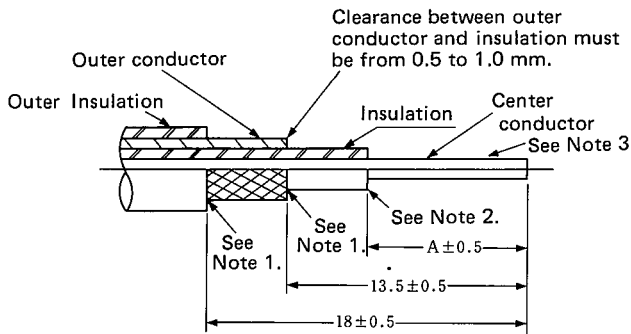

Fig. 2
- (1) Strip the outer insulation to 18 ± 0.5 mm from the cable end shown in Figure 2. Cut the outer conductor of the cable to 13.5 ± 0.5 mm. Cut the insulation by dimension "A" specified in the table below.
- (2) After preparing the cable per #1, wipe the center conductor with an alcohol-dampened cloth to remove any polythylene residue from the surface of the center conductor.